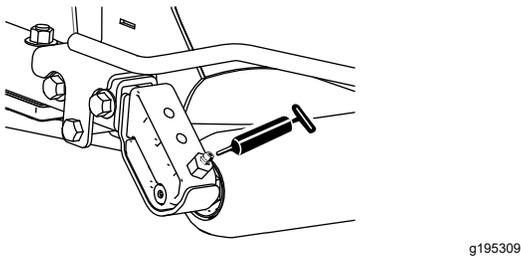

Figure 42
- 2 (per cutting unit) rear roller bearings (Figure 42)